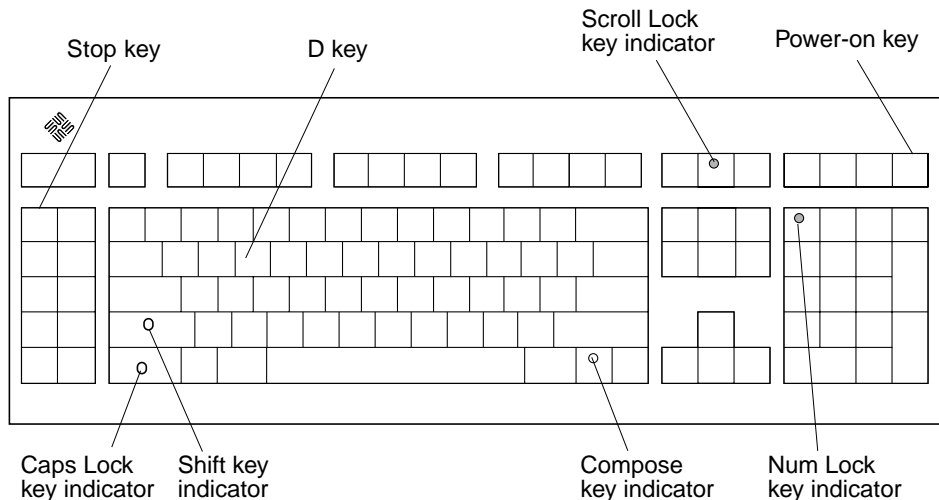

FIGURE 3-2 Sun Type-5 Keyboard
2. At the keyboard, power cycle the system unit by simultaneously pressing the Shift key and the power-on key (FIGURE 3-2). After a few seconds, press the power-on key again.